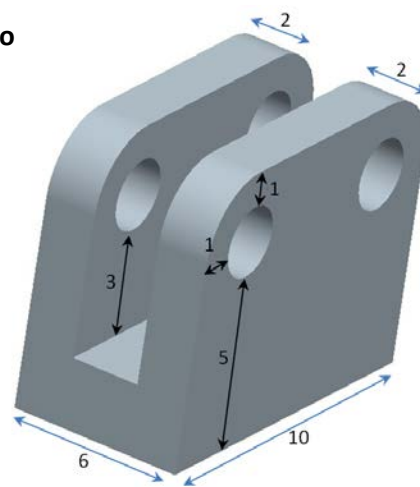

Figure 2
4.	IntelliCAD Drawing of Figure 2 with a title block (total surface area and volume should be handwritten on the page with 7 sig figs)